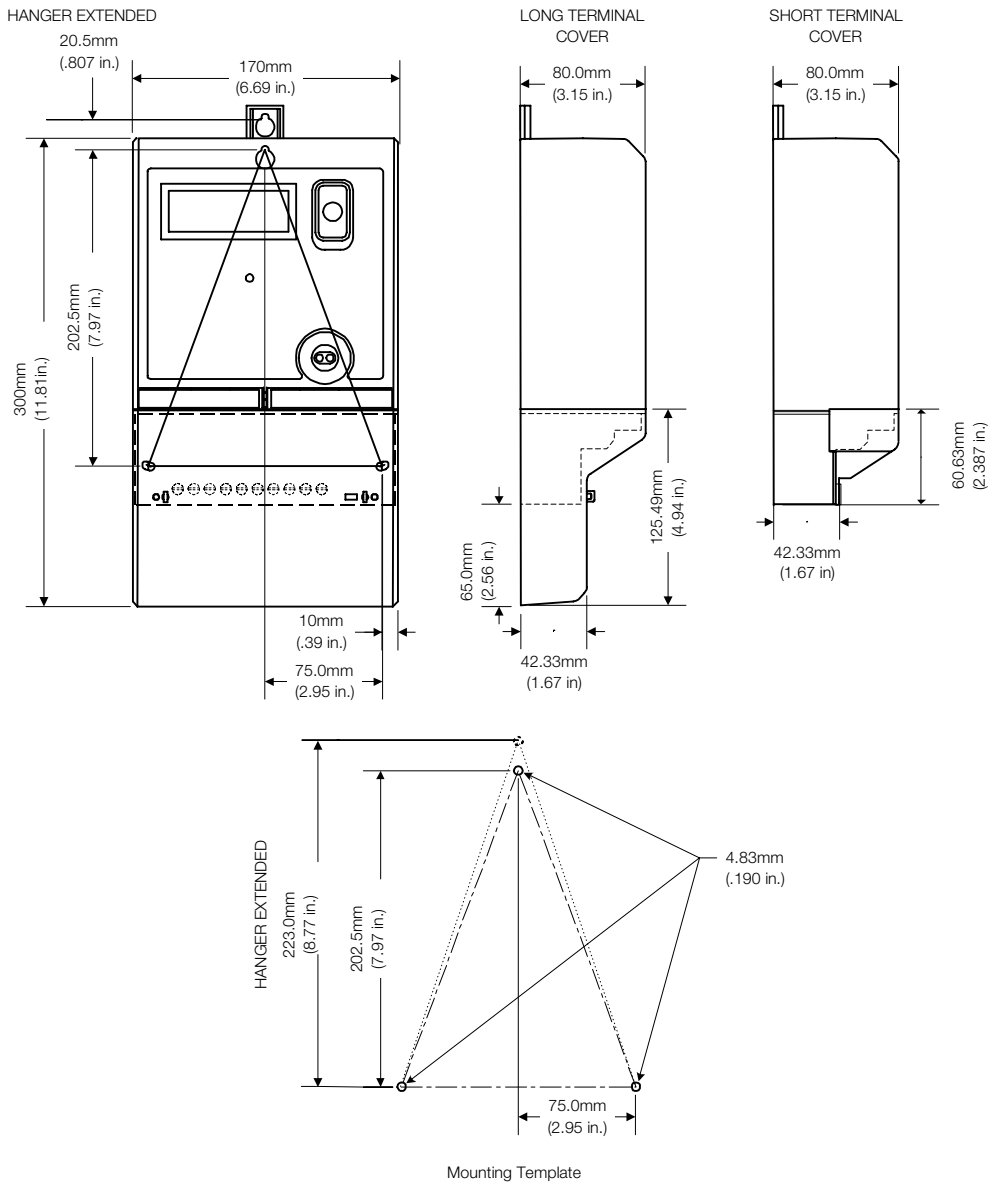

Figure 4. Mounting dimensions
- 2 Mount the bottom-connected meter. The housing, fixing holes, and terminal block conform to the DIN 43859 standard. The top hanger of the meter can be positioned above the housing, and thereby be visible and more easily installed, or it can be hidden under the housing. You can easily change the position of the hanger by pressing it together and then moving it to the desired position (see Figure 4 for mounting dimensions).